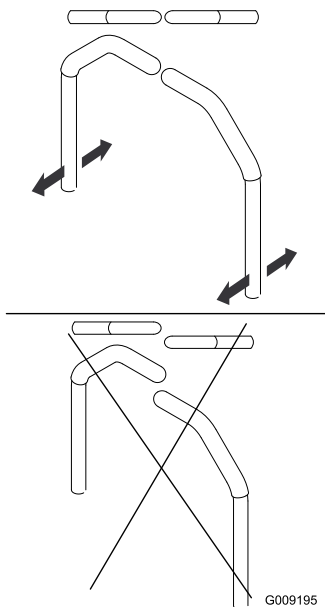

Figure 80
4. Align the levers in the front-to-rear position by bringing the levers together to the NEUTRAL position, and slide them until they are aligned, then tighten the bolts (Figure 80).